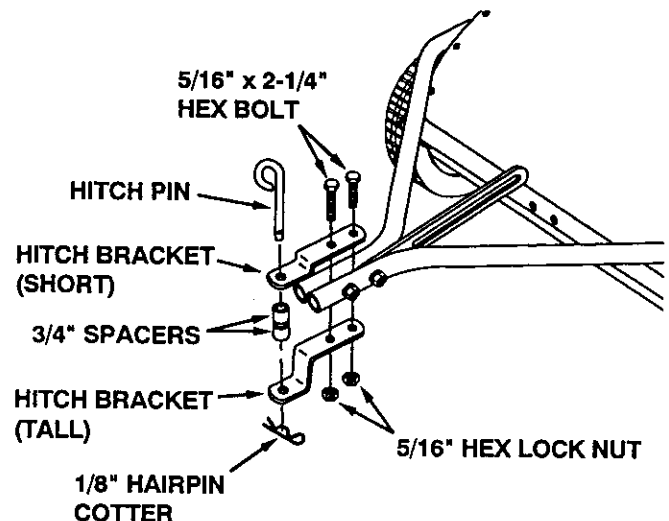

FIGURE 3
- Assemble the short hitch bracket on top and the tall hitch bracket to the bottom of the hitch tubes as shown in figure 3. Fasten with two 5/16" x 2-1/4" hex bolts and 5/16" hex lock nuts. The bolts should straddle the front cross bolt. **Do not tighten yet.**
- Assemble the hitch pin, two 3/4" spacers and the 1/8" hairpin cotter to the hitch brackets. See figure 3.
If your tractor hitch has 10" to 13" ground clearance use the instructions below to assemble the sweeper hitch brackets. If your tractor hitch has less than 10" ground clearance, refer back to figure 3 on page 5.